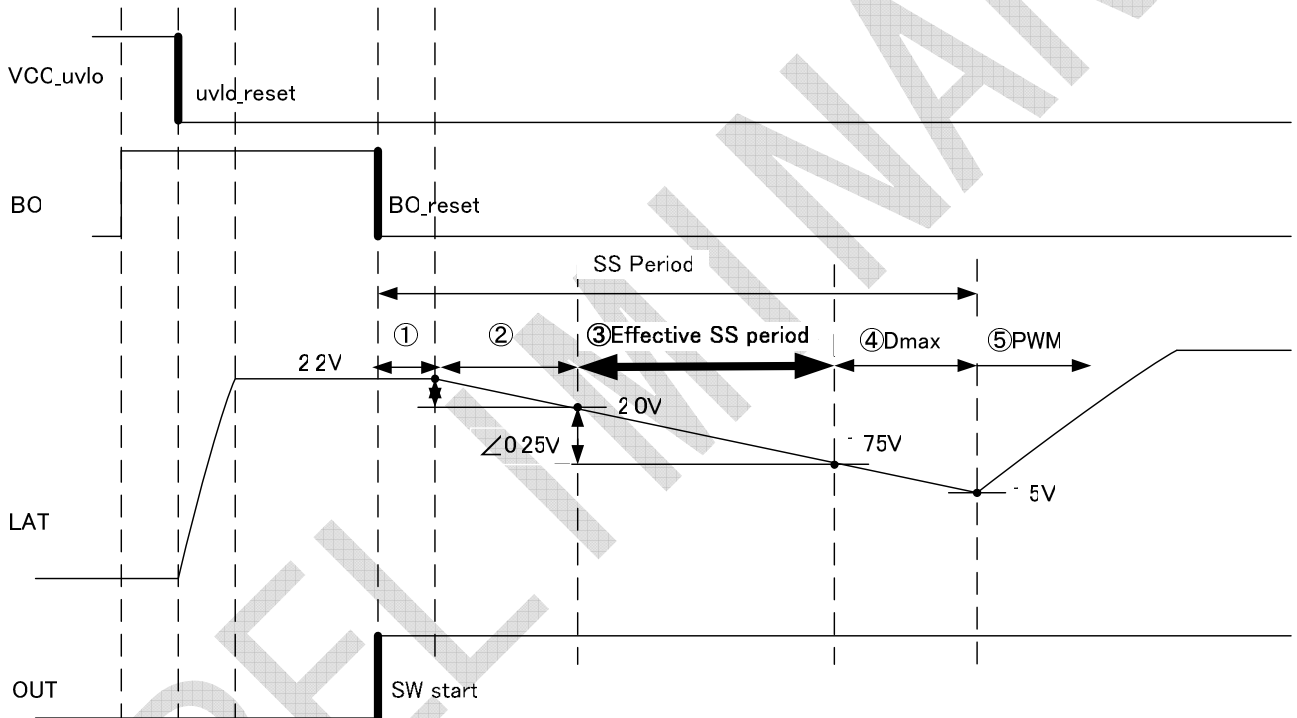

Fig.18 Soft-start operation
(13) Soft-start
Fig. 18 shows the soft-start operation. The BO signal is a brownout signal and becomes H during brownout and L during brownin. See 8-(12) for the description of the LAT terminal operation. The following is the calculation method for the soft-start.